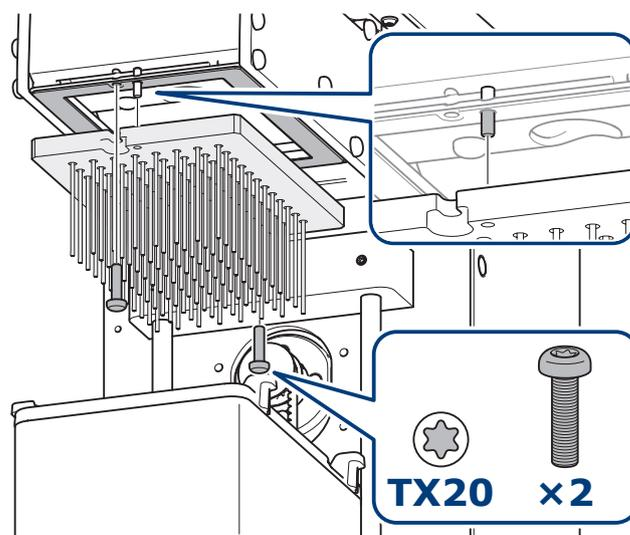

Figure 17. Remove the 2 screws and the the manifold.
2. Use the Torx T20 key (P/N 411886) supplied with the system to remove the two screws that secure the manifold to the gas heater, see Figure 17. Ensure that the manifold is held in position while the last screw is removed.
5. Use the 2 pins on the gas heater to guide the new manifold in position. See Figure 17.